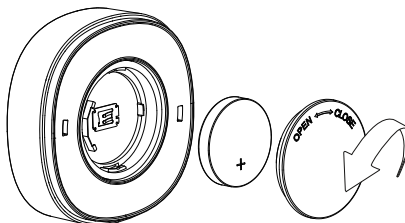

figure 3
2. Power on: Open the battery cover of the product by turning it counterclockwise by hand, put in the CR2450 button battery, and replace the battery cover, and the product can be powered on and used (as shown in Figure 3).